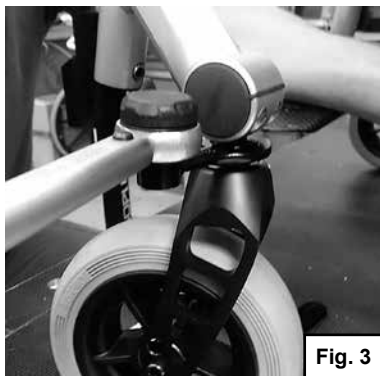

Fig. 3
- Undo the round nut between the fork and castor connection with the C spanner (Fig. 3)